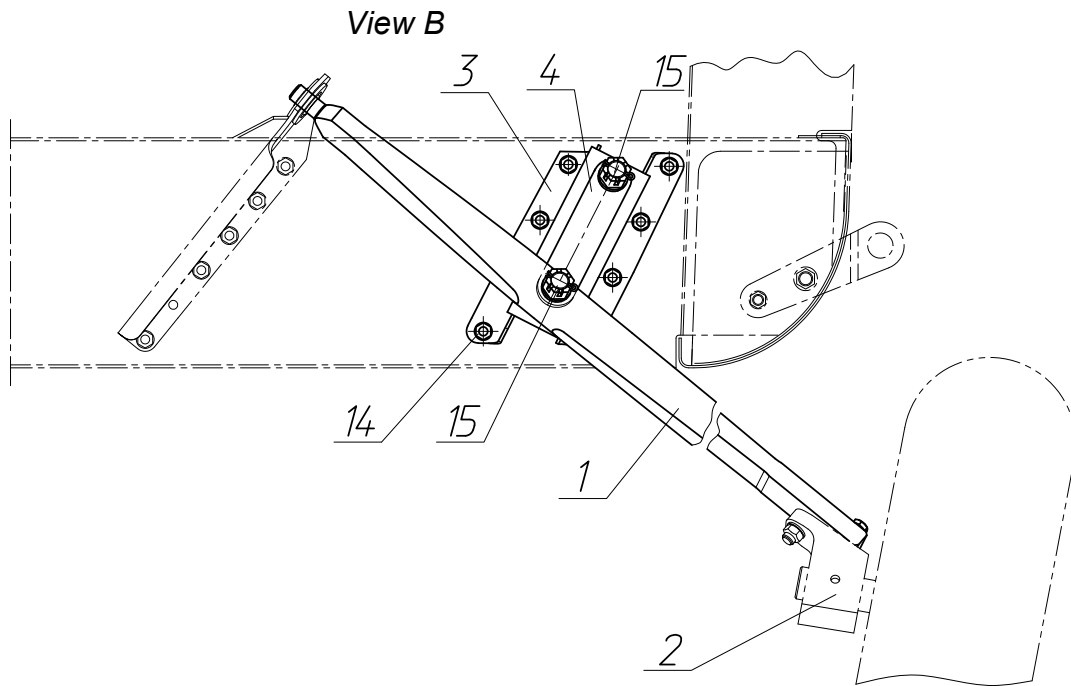

Fig. 3
5. Disconnect the wheel and fitting (2) from the spring (1) (see fig.3).
6. Un-lock, undo and remove the nuts (15), remove the shackle (4) (see fig.3).